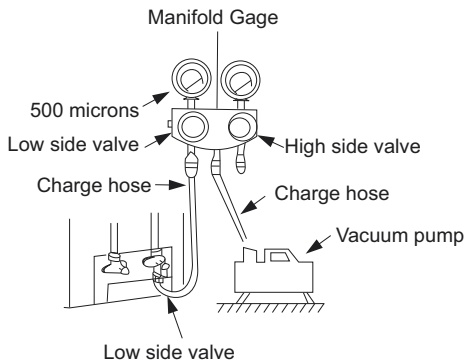

Fig. 23 – Manifold
- 3 Fully open the low side of manifold gage (see Fig. 23).